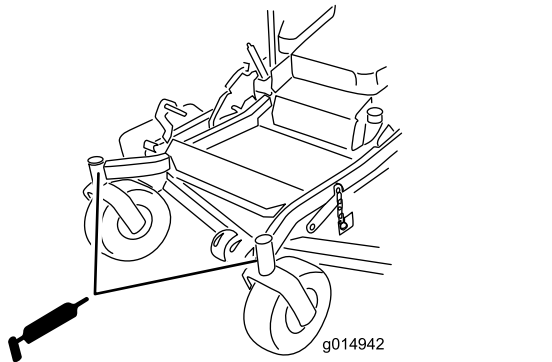

Figure 44
11. Install the hex plug and dust cap (Figure 44).
12. Grease the caster-wheel bearings (Figure 44).